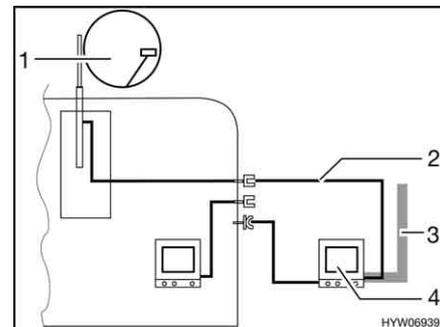

Fig. 157 TV in the awning
- TV inside the awning (Fig. 157,4): Connection to roof antenna (Fig. 157,1) with connection cable (Fig. 157,2)
- TV inside the awning (Fig. 157,4): Connection to external antenna (Fig. 157,3)